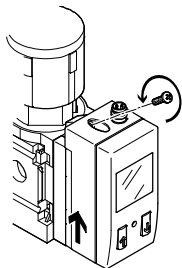
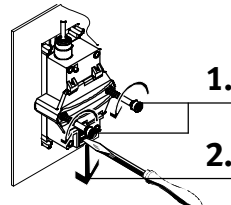

Fig. 25
Fig. 28
4. Loosen the mountings → Fig. 25 to Fig. 28